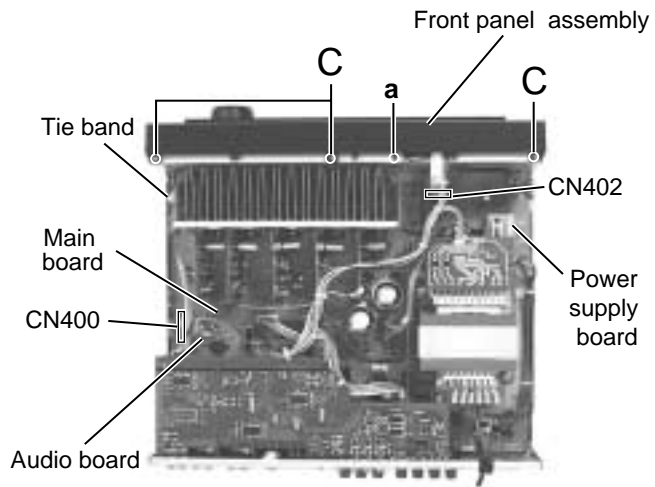

Fig.2
■ Removing the front panel assembly (See Fig.2 to 3)